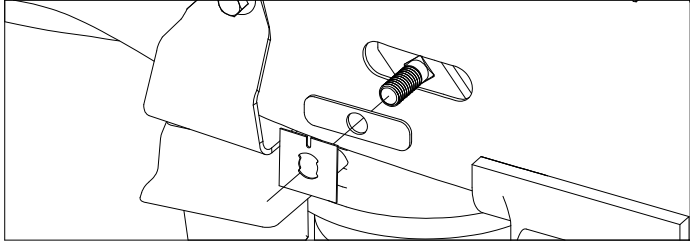

Figure A11: View looking into driver side wheel well.
14. Install rear carriage bolt. Pass the carriage bolt and locking strap into the frame through the forward mounting slot and pull the fish wire until the threaded end of the carriage bolt is through the locking strap and has passed out of the rear mounting slot. Install a rectangular frame spacer onto the carriage bolt and place it into the slot in the frame. Install a retainer onto the carriage bolt until it is snug, see Figure A11.